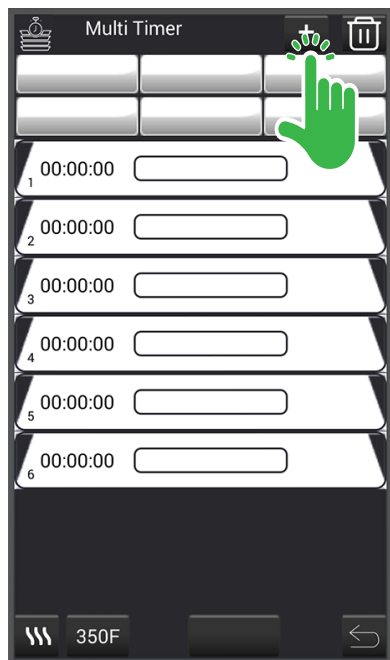
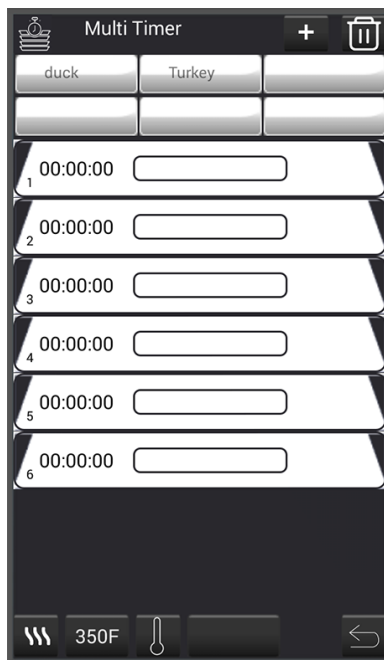

Fig. 52
Fig. 53
1. From the **Multiple Position Timer Screen**, touch the add button (Fig. 52) and type the text for a label. The text typed will appear in one of the blank fields (Fig. 53) above the position timer section of the display.